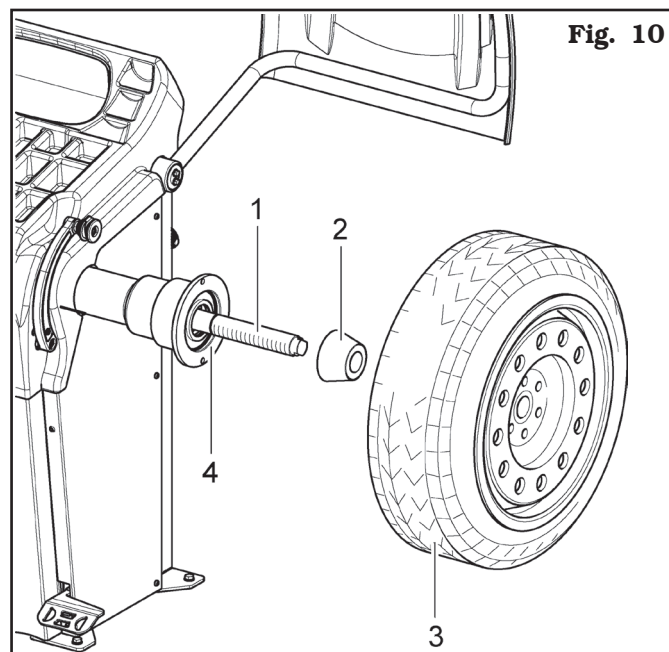

Fig. 10
1. Remove any type of foreign body from the wheel (**Fig. 10 ref. 3**): pre-existing weights, stones and mud, and make sure the mandrel (**Fig. 10 ref. 1**) and the rim centring area are clean before fitting the wheel on the mandrel.
2. Carefully choose the cone (**Fig. 10 ref. 2**) most suitable for the wheel to be balanced. These accessories must be selected according to the shape of the rim. Position the wheel (**Fig. 10 ref. 3**), fitting the cone (**Fig. 10 ref. 2**) on the mandrel (**Fig. 10 ref. 1**): be careful (otherwise this could seize) until this rests against the support flange (**Fig. 10 ref. 4**).